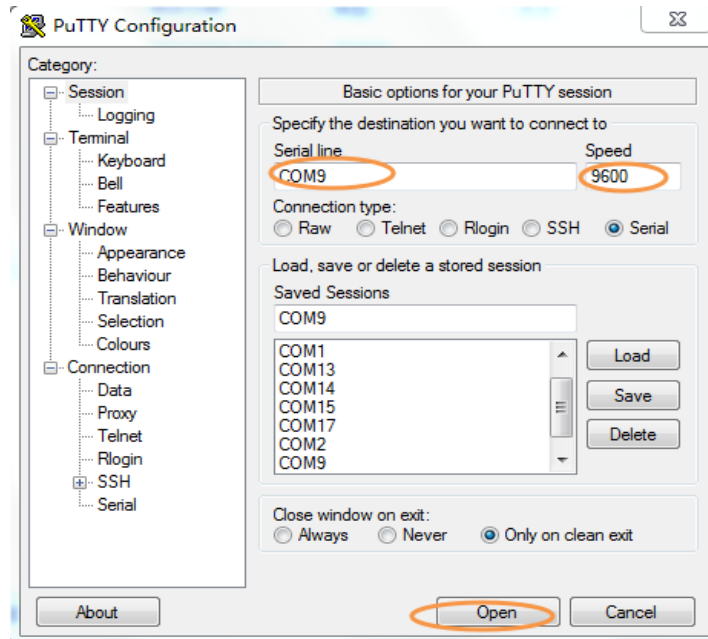

Figure 6-10 Putty Terminal Setup
- Open the putty software, type in the parameter as shown in **Figure 6-10** and click open button to open the terminal. (Here is a link for you to download the putty terminal: Download Putty)